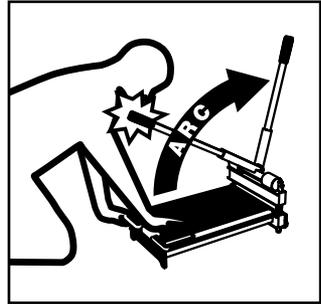

Figure 4
This cutter has a spring-loaded leverage handle that rises automatically with enough force to cause injury (Figure 4). Be aware of the motion of the leverage handle. As it rises, guide the leverage handle to its starting upright position to prevent it from slamming against its stop or impacting your body. In operation, kneel to the side of the leverage handle, keeping your head and the rest of the body out of its arc, and keep bystanders out of the way.
**PREPARING TO CUT:** Place the cutter flat on the floor with its two guide posts and rear stand flat on the floor. In use, the cutter must be stable on the floor and prevented from rocking or tipping. Make sure there is space around the cutter for handle travel (Figure 4). Check that the blade is sharp and free of burrs (for instructions on removing burrs, see MAINTENANCE below).